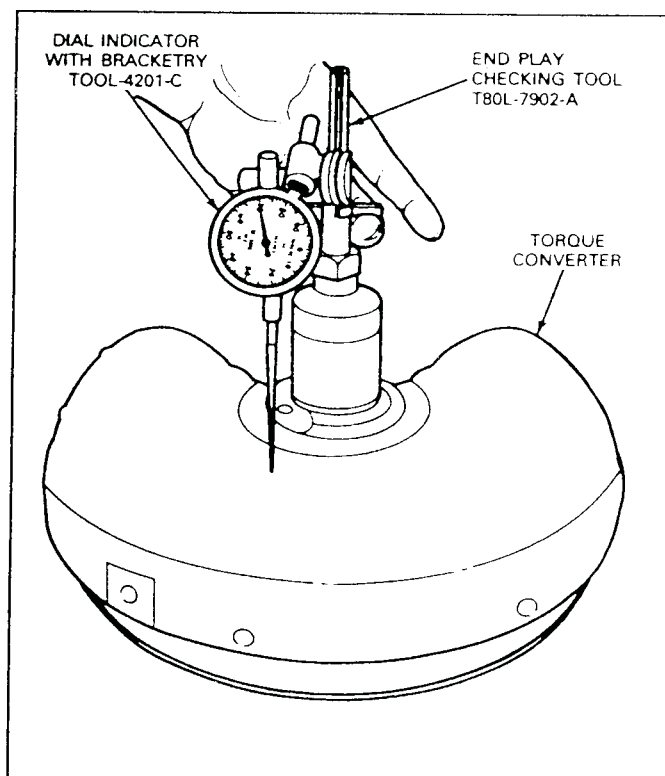

FIG. 33 Checking Stator and Turbine End Play
3. Attach a dial indicator (with bracketry) TOOL-4201-C to the tool (Fig. 33). Position the indicator button on the converter pump drive hub, and set the dial face at 0 (zero).